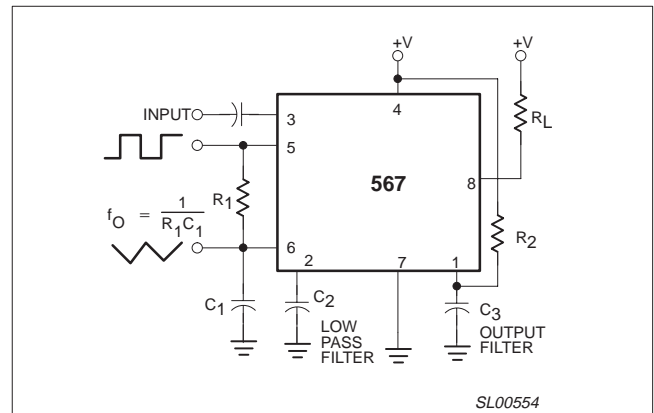

Figure 16. Typical connection
- With R₂ = 130 kΩ from Pin 1 to V+. See Figure 16.
Figure 16 shows a typical connection diagram for the 567. For most applications, the following three-step procedure will be sufficient for choosing the external components R_1 , C_1 , C_2 and C_3 .